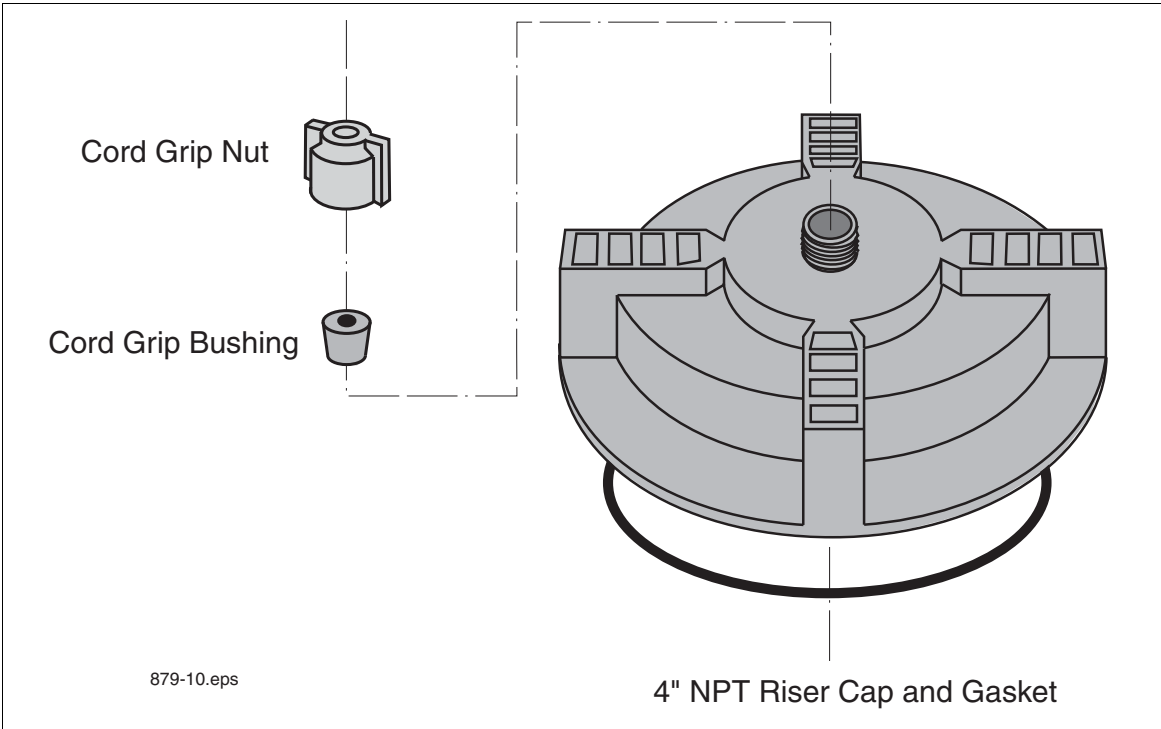

Figure 9. Cap and Cord Grip Kit
This Riser Cap kit (Table 6) contains a non-metallic cap which screws onto the 4" NPT riser (Figure 9). The cap comes drilled and tapped with a cord grip.
1. If you are using the one piece cap (see Figure 9 on page 18), push the end of the probe cable through the cord grip bushing and nut on the cap, leaving a minimal amount of slack between the probe and cap. Screw the cap onto the riser by hand until the gasket first contacts the pipe. Then lightly tap the cap with a hammer to tighten it an additional 3/4 turn. Go to Step 3.
1. If you are using the one piece cap (see Figure 9 on page 18), push the end of the probe cable through the cap and cord grip bushing, leaving a minimal amount of slack between the probe and cap. Discard the cord grip nut and attach the Adaptor Nut from the AST kit to the cap (see Figure 6 on page 15). Tighten the Adaptor Nut until the cable is held firmly. Go to Step 3.